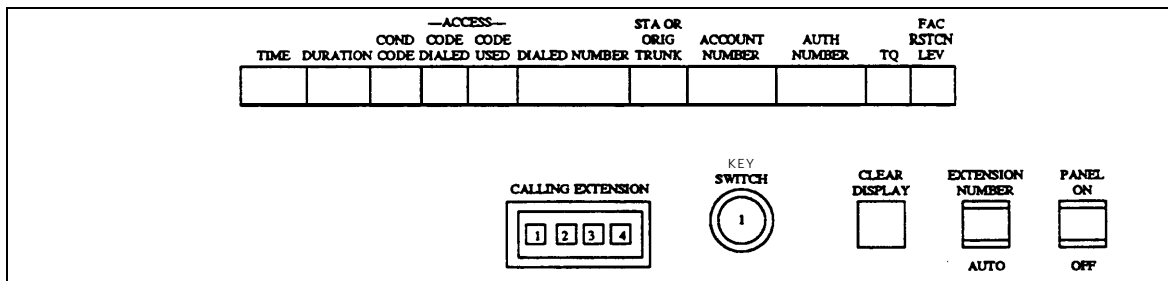

Figure 6-4. Type II SMDR 9-Track System Control Panel
5. If you tested 9-track magnetic tape SMDR equipment use the following steps to examine each call record as it is written on the magnetic tape (see Figure 6-4, *Type II SMDR 9-Track System Control Panel*).